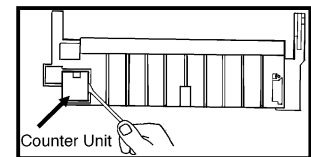

Figure 4
9. Carefully remove the counter from the bottom of the unit (Fig 4).